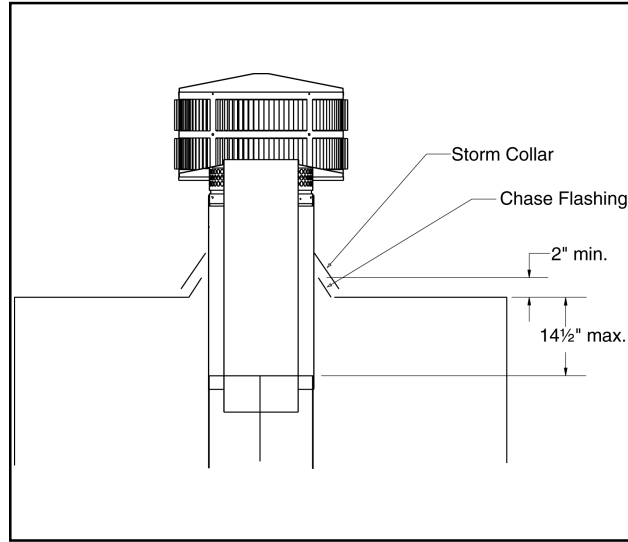

Figure 23 - Installing a TR11T Round Telescoping Termination Cap
- b. For installations utilizing a TR11T telescoping round termination cap, the uppermost chimney section must be below the top of the chase top, but not more than 14½" below the top of the chase top flashing collar. See Figure 23.